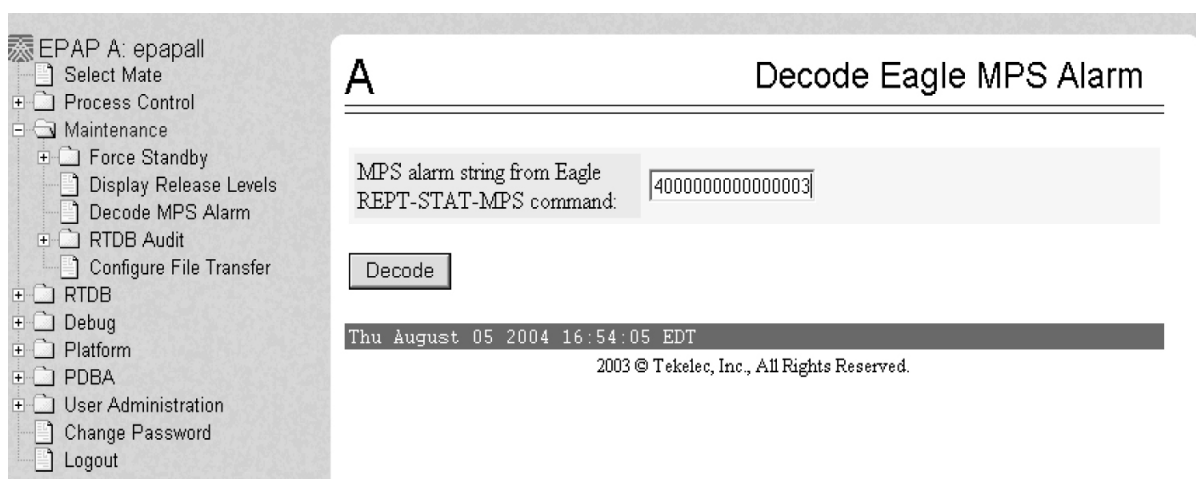

Figure 27: Decode MPS Alarm Screen
3. Enter the 16-digit alarm string into the window on the **Decode MPS Alarm** screen, as shown in Figure 27: Decode MPS Alarm Screen.